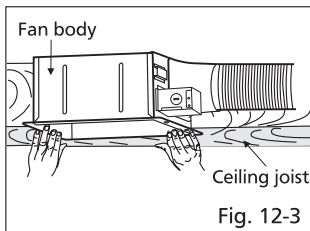

Fig. 12-3
4. Insert fan body (without blower section) into joists. (Fig. 12-3)